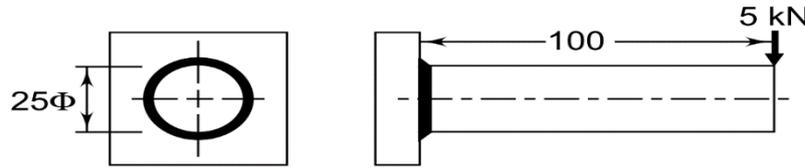

Fig. Q5(a)
5. (a) A solid circular beam, 25 mm in diameter, is welded to a support by means of fillet weld as shown in Fig.Q5(a). Determine the leg dimensions of the weld, if the permissible shear stress is 95 N/mm^2 10M